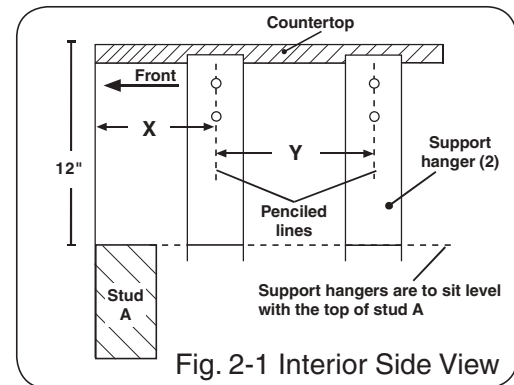
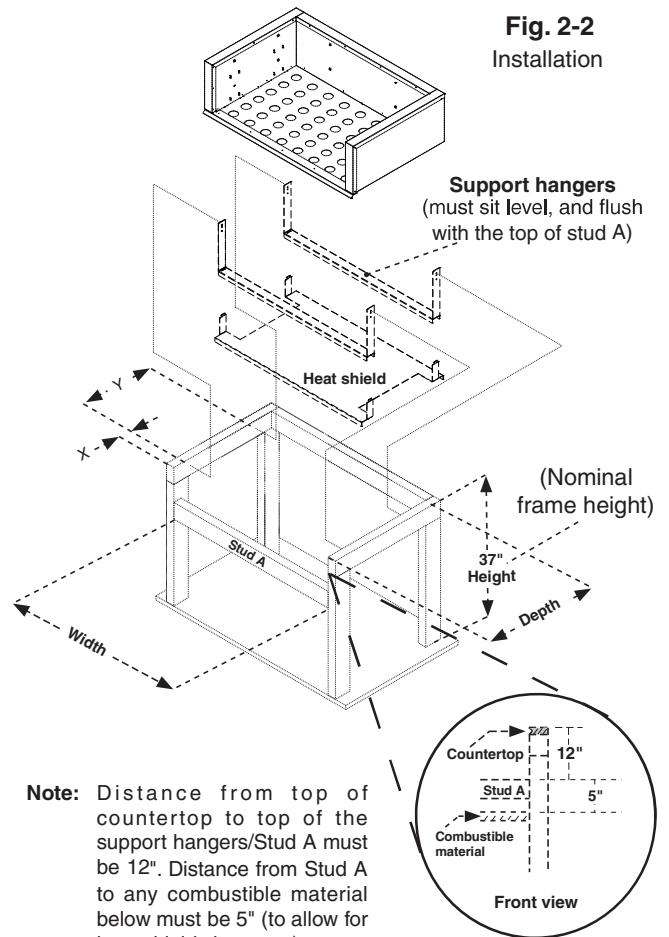

Fig. 2-1 Interior Side View
Fig. 2-2
The insulating liner kit includes the pre-assembled liner, two support hangers, and a heat shield. Liner cutout dimensions are given in Table 1. A nominal 1/16" gap around the back and sides of the liner is recommended for ease of installation. A minimum of 5" from combustible material is required directly below the top of the support hangers/Stud A, to allow for clearance of the heat shield (See Fig. 2-2). If a complete combustible shelf is installed beneath the heatshield, it must contain two ventilation cutouts. The cutouts must be located directly below the right hand and left hand ends of the heatshield. Reference Table 2 for dimensions. If the countertop thickness exceeds 2", new screw holes must be made in the support hangers.
† See Fig. 2-1 for hanger setback detail
1. On the inside of the grill opening, pencil in a vertical line X" from the front of the enclosure. Then, pencil in a second line, Y" (back) from the first line. (**See Table 1 and Fig. 2-1 for dimensions**). Do the same on the opposite side as well.
Note: The distance between lines 1 and 2 must be Y" to allow for proper alignment and installation of the heat shield with the support hangers (see Fig. 2-1 & Fig. 2-2).
2. Align the top of the support hangers level and flush with the opening 12" down from the countertop (i.e., the top of stud A). Line up hanger holes with your penciled lines (see Fig. 2-1 & Fig. 2-2) and screw into position.